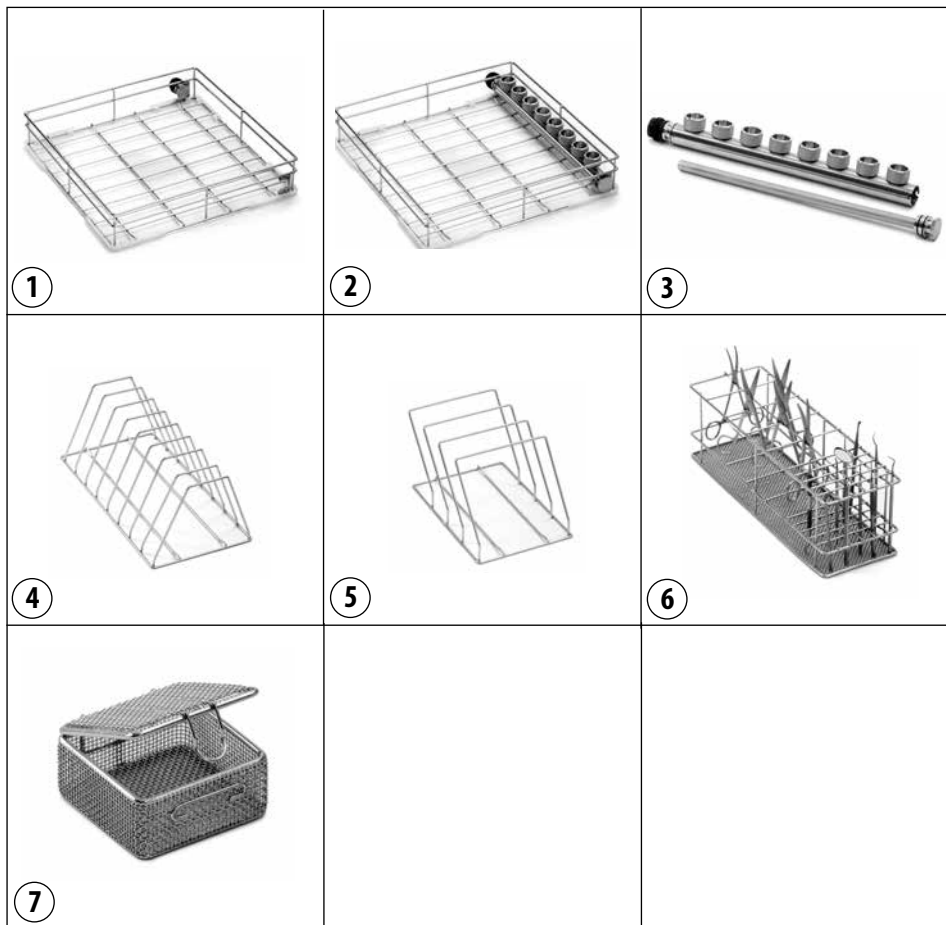

Fig. 3 - Baskets and accessories
2.6 Accessories (Figure 3)
The machine leaves the factory without any accessory/basket. The user must request the most suitable accessory/basket from Tuttinauer Europe b.v., with reference to figure 3.